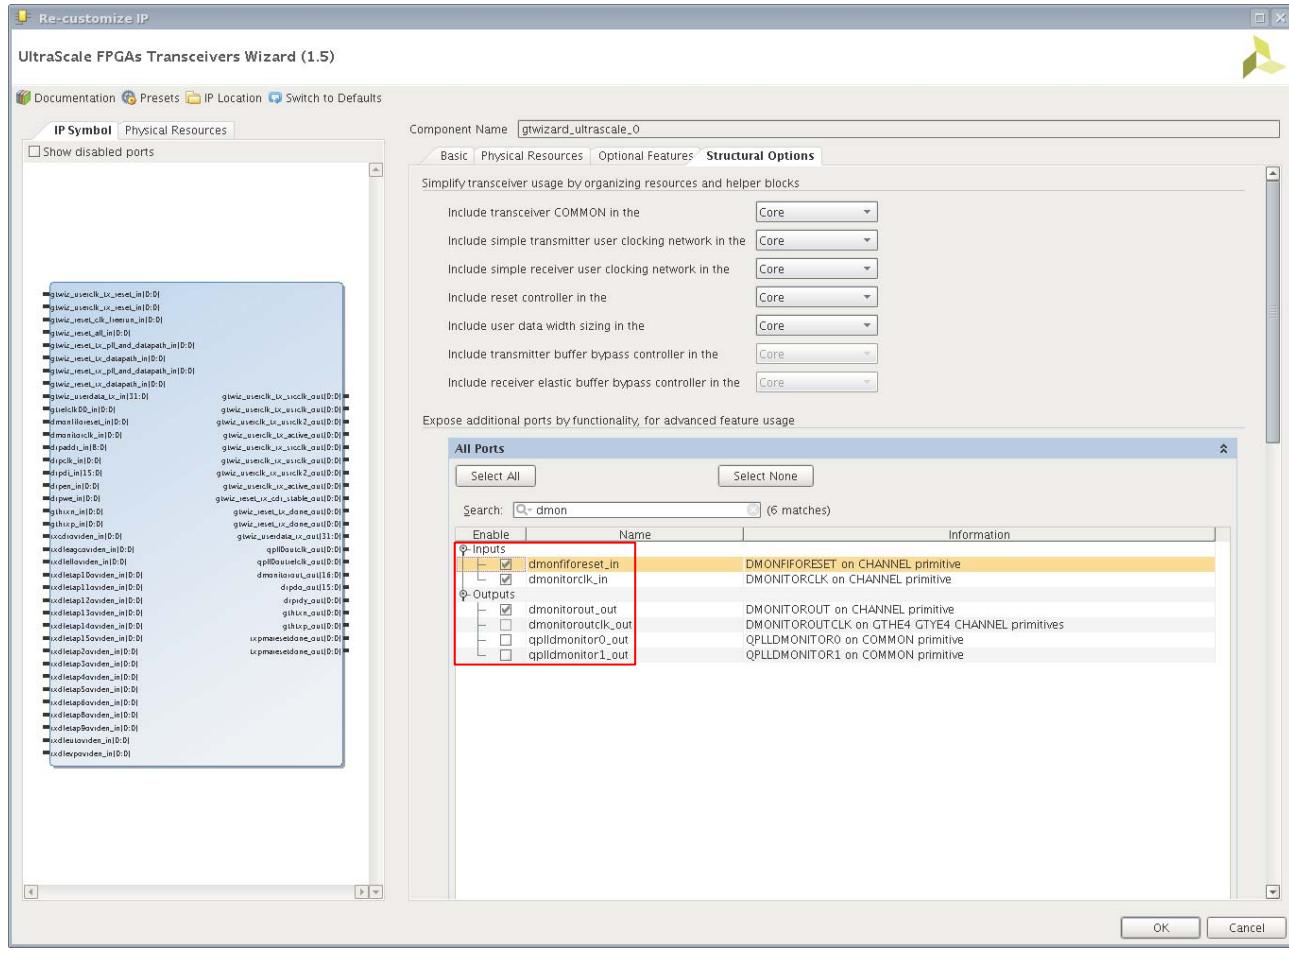

Figure 15: Wizard Structural Options Tab Showing Digital Monitor Ports
9. Select the checked ports shown in Figure 15.